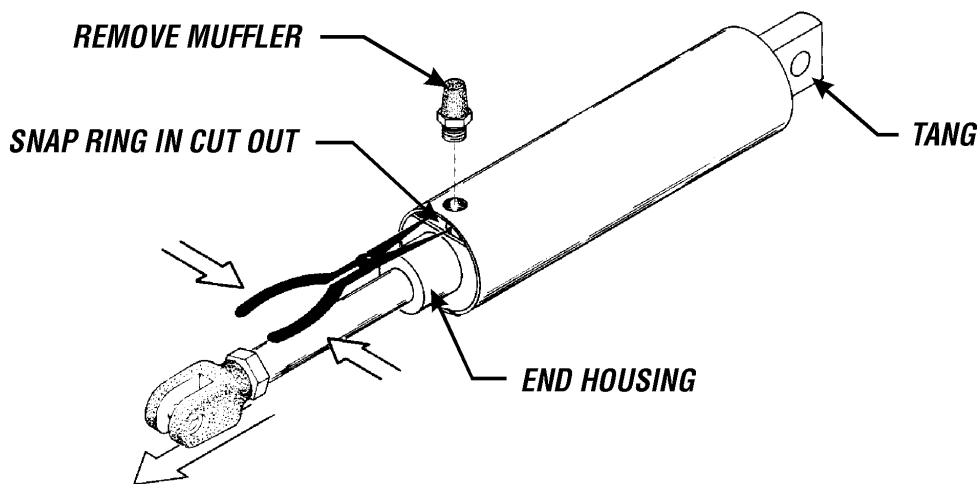

Figure 7
NO ↓            YES →            Replace the muffler (figure 7, pg. 15)
3. Pull the rod out 2/3 to 3/4 of the way. Squeeze the snap ring with snap ring pliers and pull on the rod to "tap" the end housing out of the cylinder (see Figure 7).